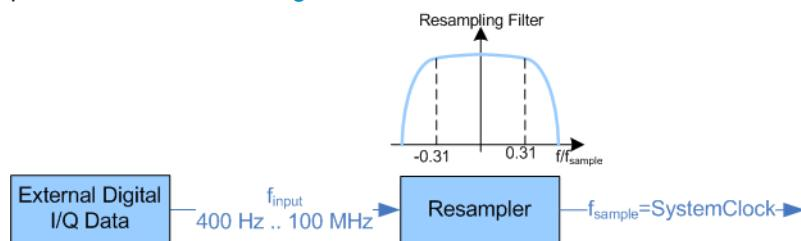

Figure 5-32: Resampling principle of external digital baseband signals
- External input signals with sample rates different than the system clock are resampled, as illustrated on Figure 5-32.
- A baseband signal with a sample rate that is smaller than the used system clock is interpolated (see Figure 5-32). The resulting modulation bandwidth 40 MHz.